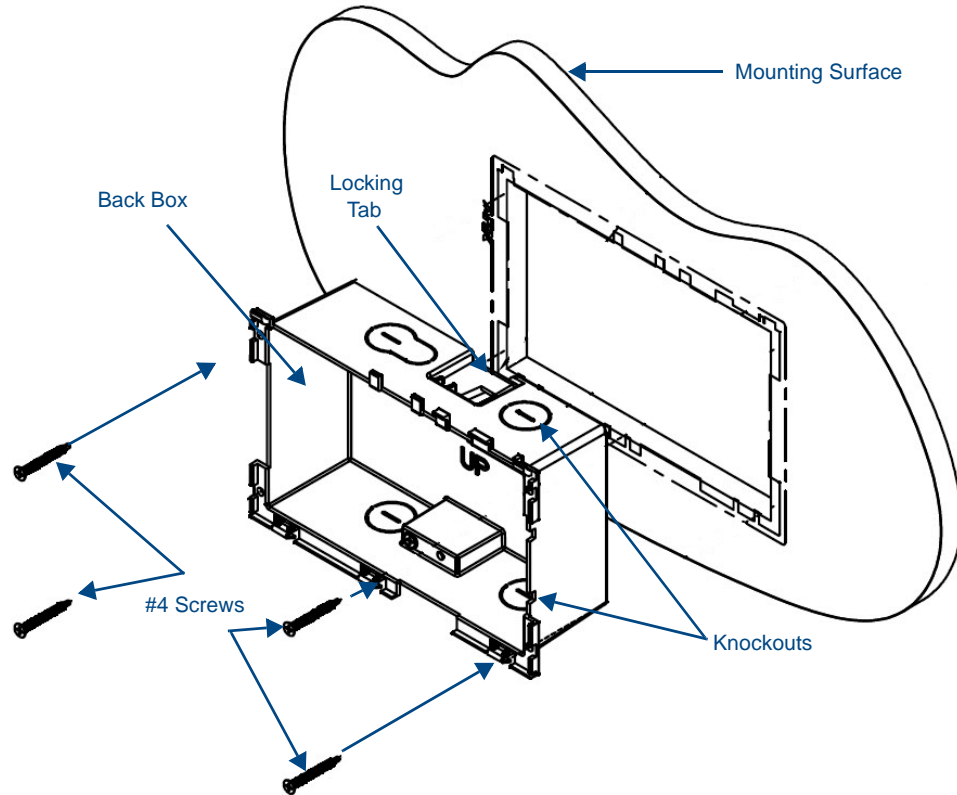

FIG. 19 MXD-700 Back Box Installation (Landscape)
4. Thread the incoming Ethernet from their terminal locations through the surface opening (FIG. 19). *Leave enough slack in the wiring to accommodate any re-positioning of the panel.*
5. Remove the back box knockouts (FIG. 19) and thread the incoming wiring through the knockout holes. To facilitate installation, thread the Ethernet cable through a bottom knockout (Landscape) or a right-side knockout (Portrait), and the USB cable through a top knockout (Landscape) or left knockout (Portrait).
9. For additional strength, #4 mounting screws (not included) may be secured through circular holes located at the left and right sides of the MXD-700 (FIG. 19). In order to prevent damage to the touch panel, make sure that these are flush with the back box.